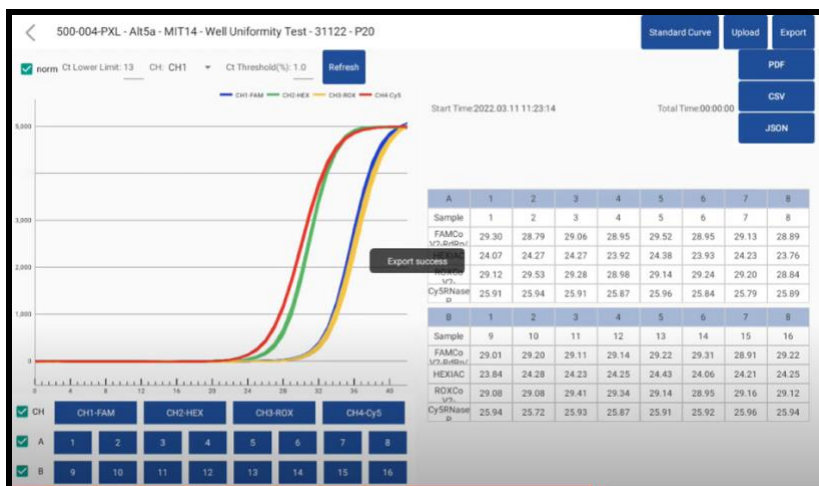

Figure 4.16. pixl™ Real-Time PCR Platform Data export PDF indicating “Export success”.
- 2) At present, pixl™ Real-Time PCR Platform supports data export to a USB flash drive. After inserting the USB flash drive, click the export button, select PDF and “Export Success” will be indicated in center of screen (Figure 4.16).